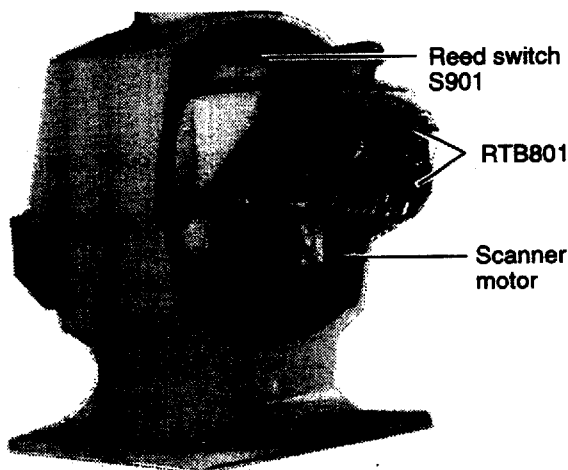

Figure 10 Scanner unit, rear view, cover opened
- 10) Bind cores with cable ties as shown in Figure 10.